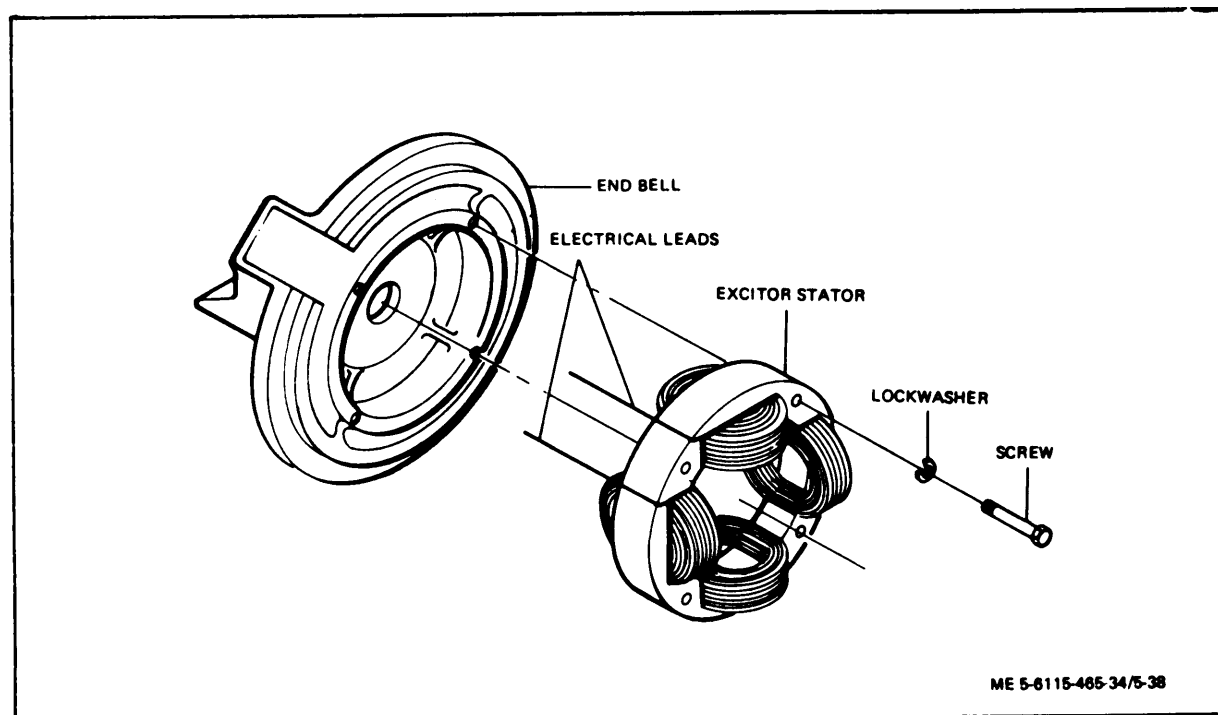

Figure 5-38. End Bell Assembly, Exploded View
(26) Do not remove screws (35) or data plate (36) unless damage is present.
(27) Remove gasket (37),
(28) If inspection reveals damage to end bell assembly, remove screws and lockwasher to remove exciter stator from end bell (figure 5-38).
(29) If inspection reveals damage to rotor and balance assembly, disassemble as follows: